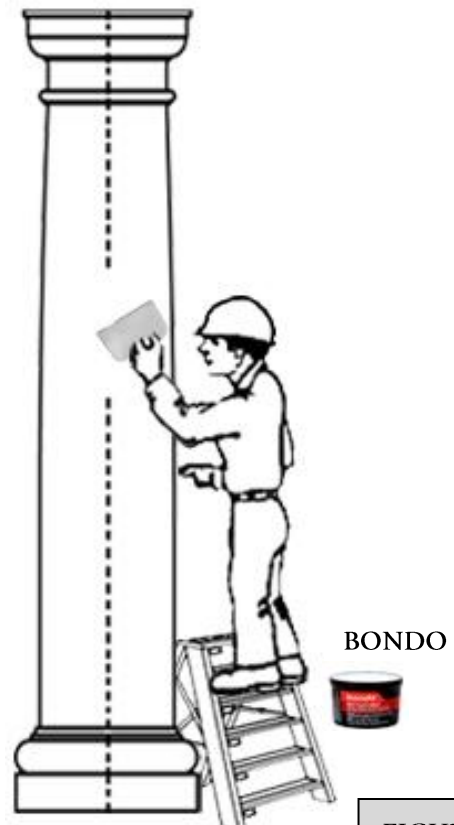

FIGURE 4
9. A fiberglass boat repair kit or "Bondo" may be used as a seam filler for a finished look. Follow the instructions on the package. [FIGURE 4]